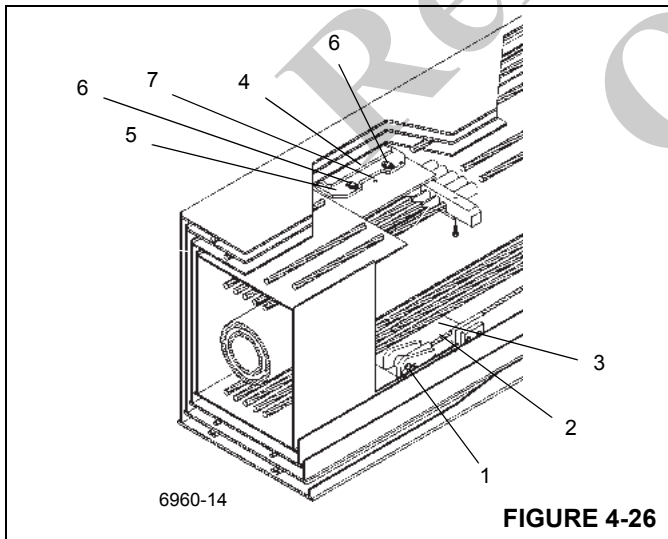

FIGURE 4-26
8. Using pins, cotter pins, and safety clip (1) attach the four fly retract cables (2) laying in the bottom of the outer mid to the lugs in the rear of the fly (3) (Figure 4-26).
18. Through the top access hole in the outer mid, position the two adjustable wear pads (4) on the top rear of the fly. Install each wear pad holder (5) and loosely install each with two capscrews and washers (6) (Figure 4-26). Install offset washers, capscrews and washers (7). Using the offset washers, adjust the wear pads such that the wear pads are within 1 mm (0.03 in) from each side plate of the next outer section. Tighten the offset washer and capscrews.